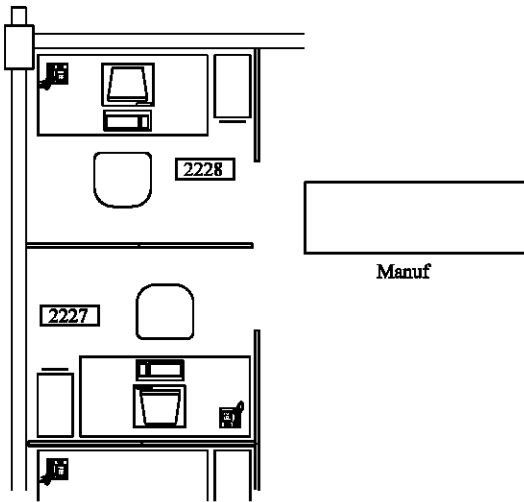

Fig. 5: Showing the attribute definition
- AutoCAD displays the attribute below the table at the insertion point you specified. Your drawing should look like one in Fig. 5.